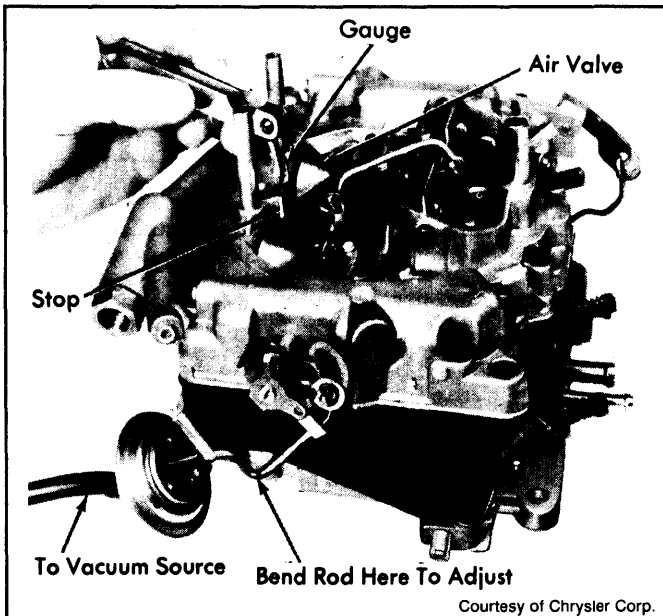

Fig. 9: Choke Diaphragm Connector Rod Adjustment
- 1) Ensure diaphragm is securely mounted to carburetor. Using an outside vacuum source, apply at least 15 in. Hg vacuum to diaphragm. Ensure diaphragm stem is fully seated. See Fig. 9.